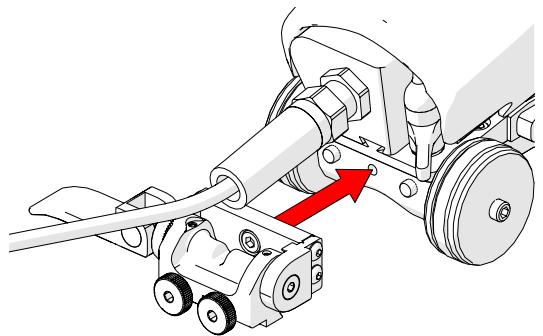

Fig. 29 - Position on cart body
2. Align the rear pivot with the pins at the rear of the cart (Fig. 29).